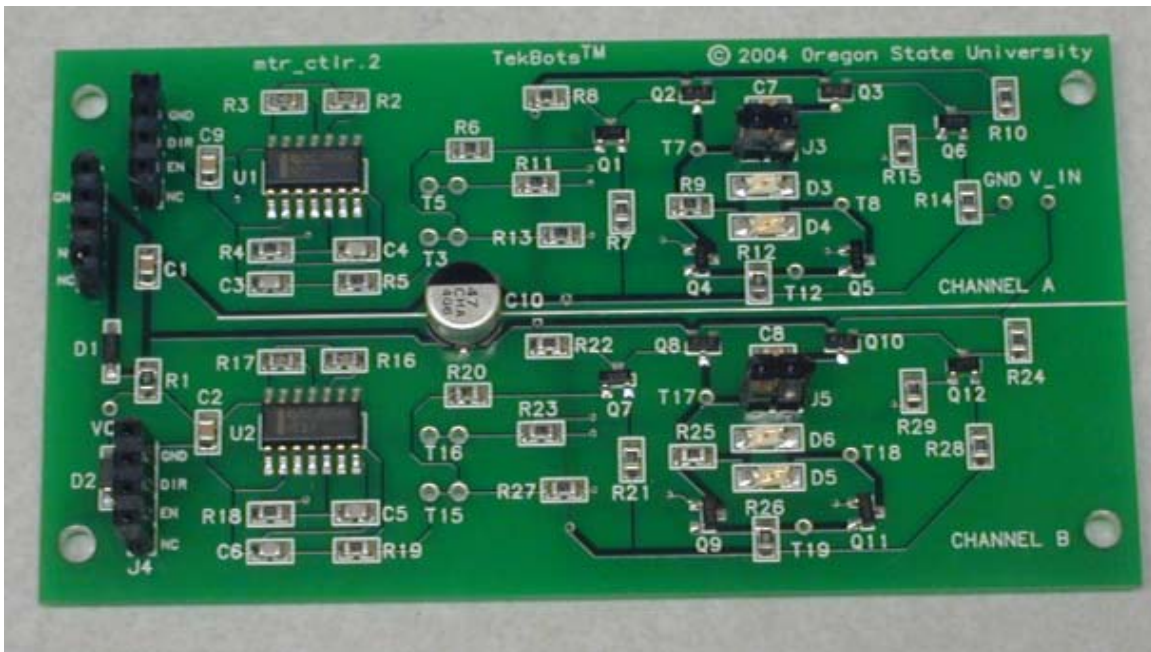

Figure 6. Motor Control Board with Connectors
3. To assemble circuits quickly for prototyping a device called a ‘breadboard’ (or ‘protoboard’) is often used. Components can be easily inserted into a set of holes and connected together with wire. Locate the breadboard in your kit and remove it from the box. Now you need to make sure that the internal contacts are firmly seated. You do this by pushing on the backside of the board with your thumbs; Figure 6 shows how this is done.